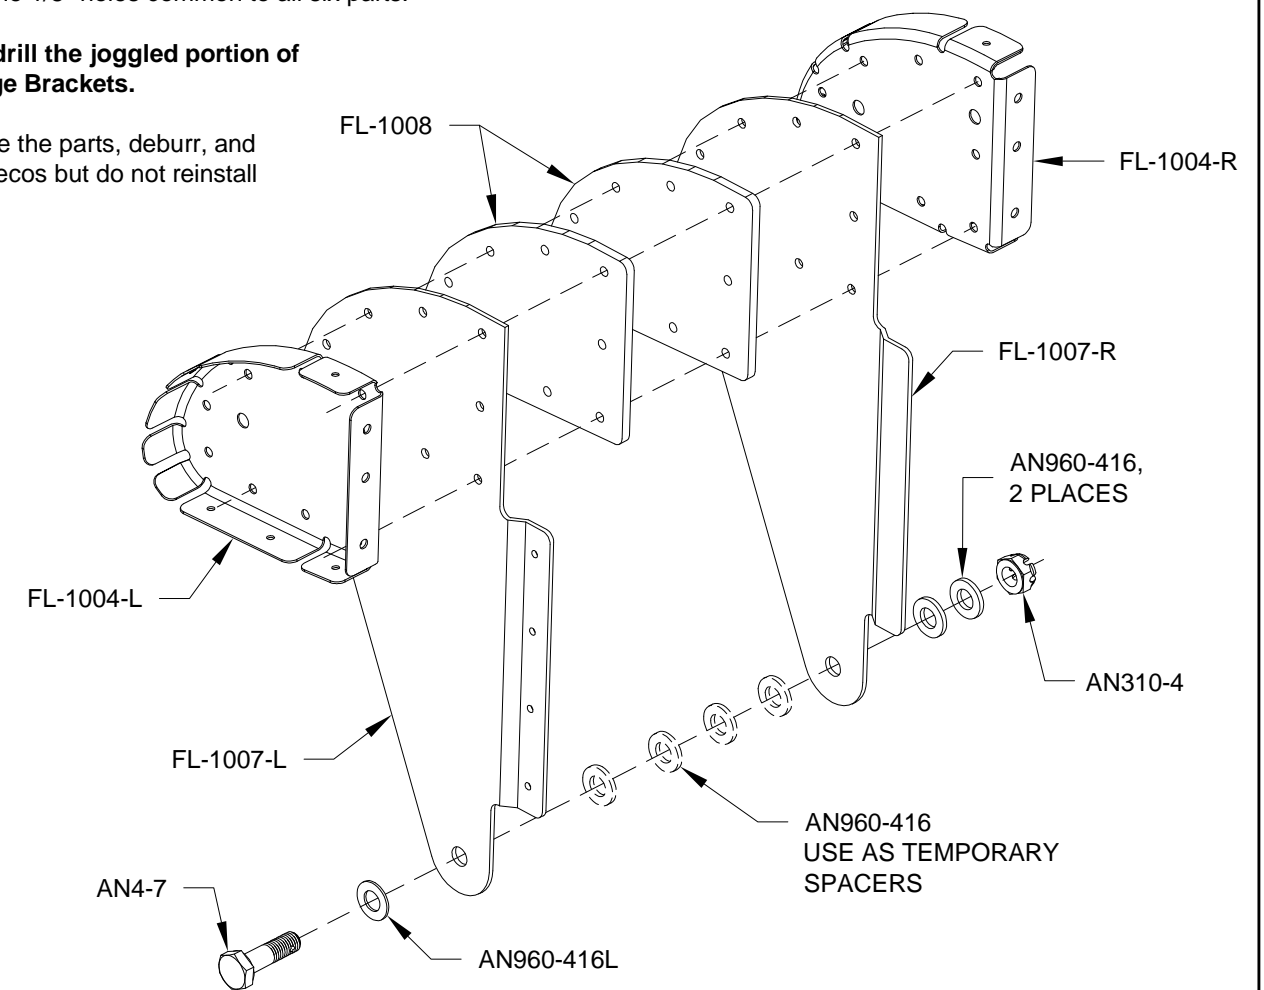

FIGURE 4: CENTER HINGE SUBASSEMBLY
Step 4: Cleco together the center hinge subassembly using the parts shown in Figure 4. Space the FL-1007-L & -R Hinge Brackets using the washers shown and insert a 1/4 in. bolt to maintain alignment.